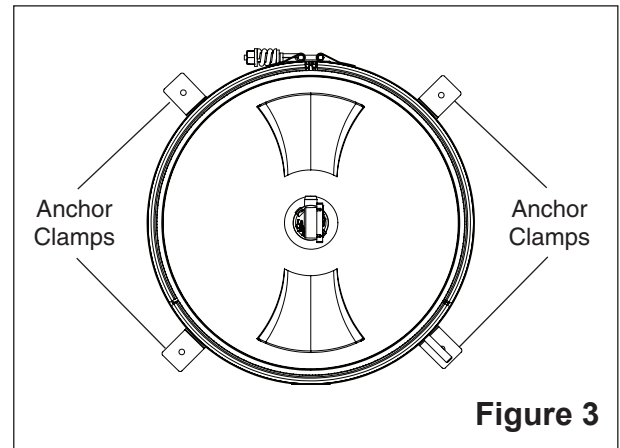

Figure 3
2. Place the clamps into the base of the filter in the four anchor slots shown in **Figure 3**.
3. Fit the hook of each clamp into the anchor slots on the base panel of the filter. See **Figure 3**.